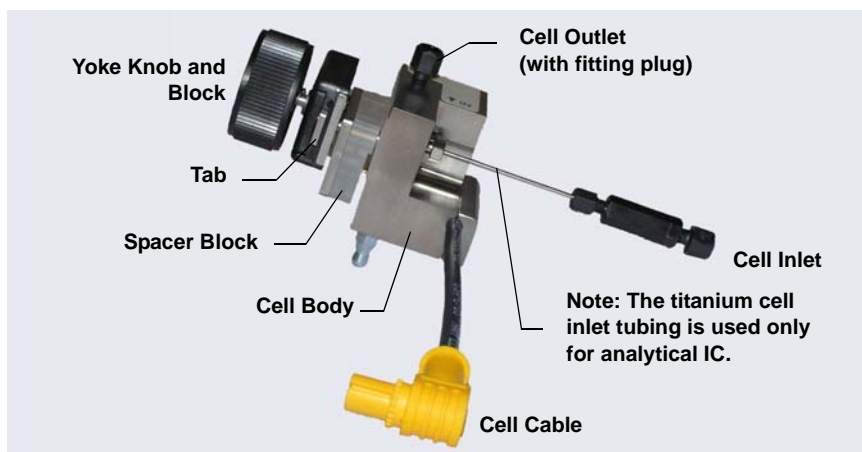

Figure B-1. ED Cell Components
1. Remove the ED cell from the box. See Figure B-1 to identify the cell parts.